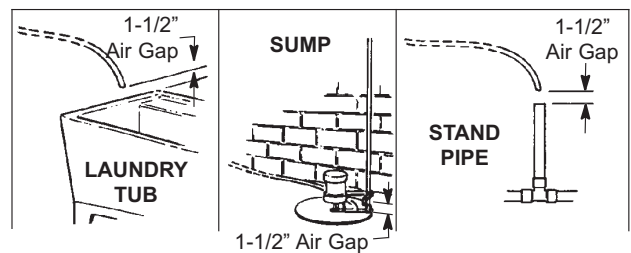

FIG. 6
The house cold water pipe (metal only) is often used as a ground for the house electrical system. The 3-valve bypass type of installation, shown in Figure 6, will maintain ground continuity. If you use the plastic bypass, continuity is broken. To restore the ground, do either step **4a** or **4b** following.
- a.** Take a length of 1/2" inside diameter hose and attach to the valve drain fitting, securing it with a hose clamp (See Figure 6 on page 8).
- b.** Locate the other end of the hose at a suitable drain point (floor drain, sump, laundry tub, etc.). Check and comply with local codes. Refer to Figure 6 on page 8 if codes require a rigid pipe drain run.